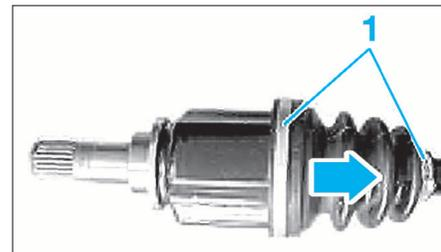

FIG. 14
- Retirer les colliers (1) (Fig.14).